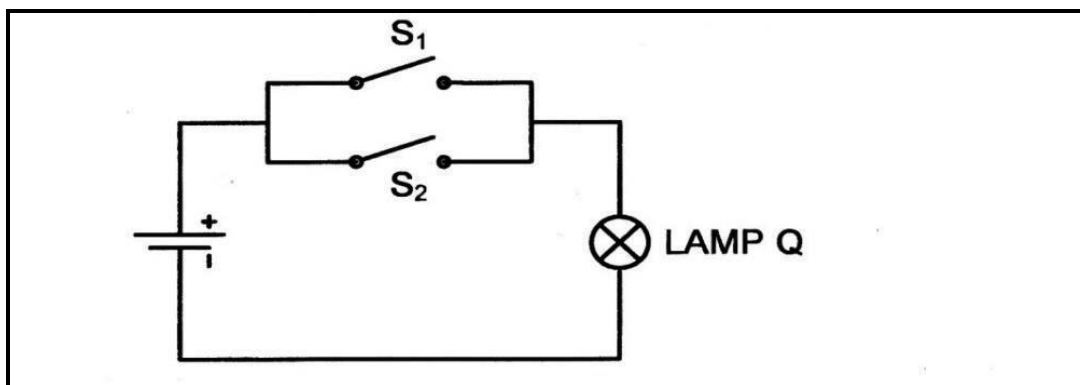

FIGURE 3.1
3.1 Refer to FIGURE 3.1 below and answer the questions that follow.
- 3.1.4 Write the Boolean expression for FIGURE 3.1. (2)